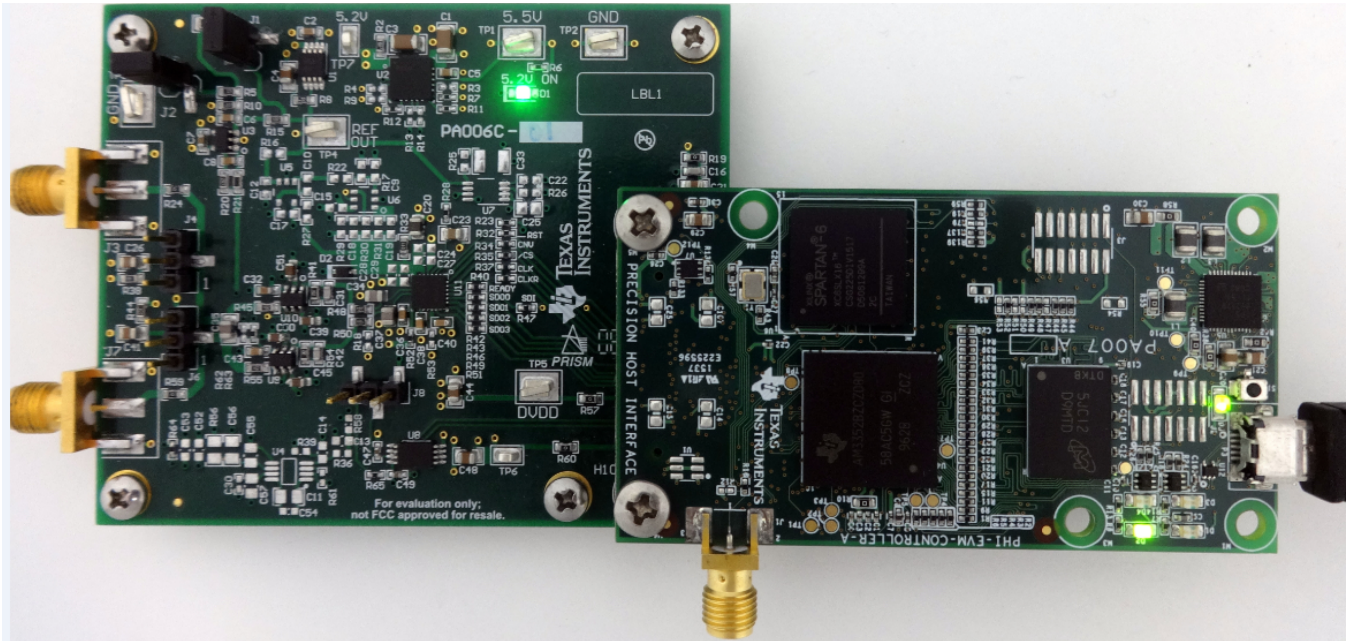

Figure 8. EVM-PDK Hardware Setup and LED Indicators
1. Connect the ADS8900BEVM to the PHI. Install the two screws as indicated in Figure 8.
- LEDs D1 and D2 on the PHI start blinking to indicate that the PHI is booted up and communicating with the PC. The resulting LED indicators are shown in Figure 8.